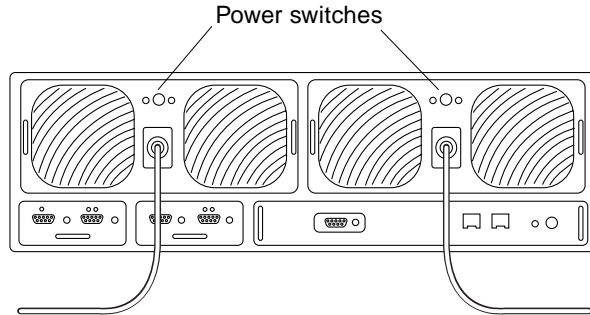

FIGURE 11-2 Power Switch Locations
4. Press the power switch on the power and cooling units on both arrays to remove AC power (FIGURE 11-2).